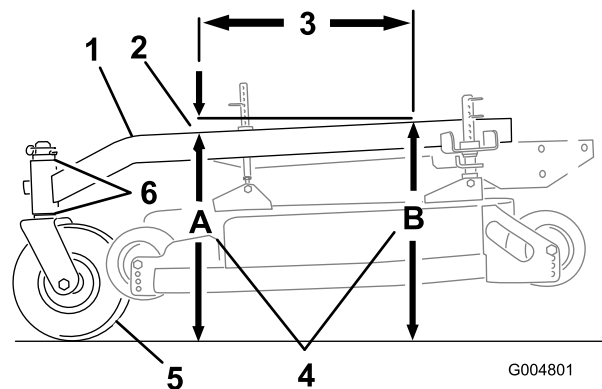

Figure 80
The carrier frame must have a pitch between 1/8 inch (3 mm) to 3/8 inch (9 mm) over the length of 24 inches (61 cm) on the carrier frame (Figure 80).
- Measure out 24 inches (61 cm) on the carrier frame (Figure 80).
- Measure carrier frame height at location **A** (Figure 80).
3. Measure carrier frame height at location **B** (Figure 80).
4. The height at location **A** must be an 1/8-3/8 inch (3 mm -10 mm) lower than location **B** (Figure 80).
5. If the carrier frame is not correct, move caster spacers to make it an 1/8-3/8 inch (3 -10 mm) pitch (Figure 80). Move spacers from top or bottom to make the correct pitch.